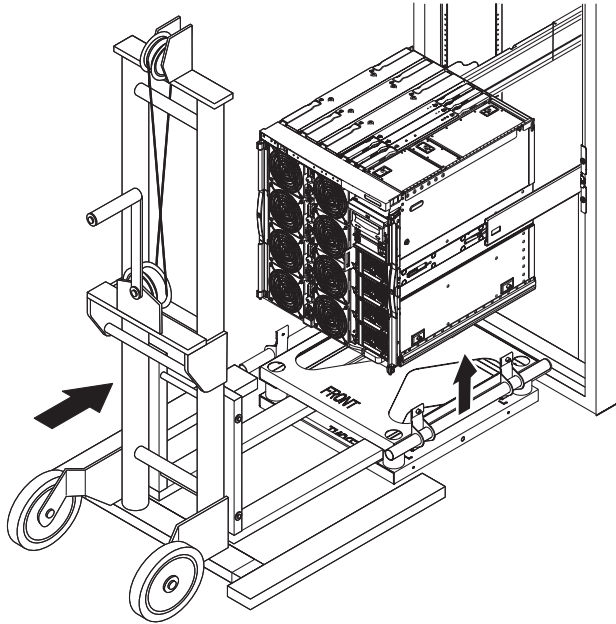

FIGURE 3-8 Lifting Device and Shipping Cradle
- 7. Raise the shipping cradle up to the system. Place the front of the shipping cradle toward the front of the system (FIGURE 3-8).**